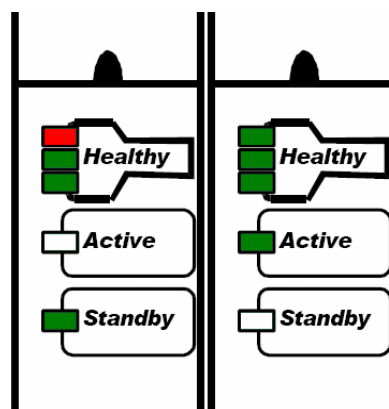

Figure 15-14: Replacement
- 3) Use the release key (but do *not* rotate the top and bottom levers open) on the primary/active module. The replacement module should now become active, indicated by its *Active* LED being steady green. The primary module should now revert to standby mode, indicated by its *Standby* LED being steady green, as shown in Figure 15-14. (*Note: If the primary module has an actual fault, the swap will be automatic and the levers will not have to be operated to initiate the change-over.*)